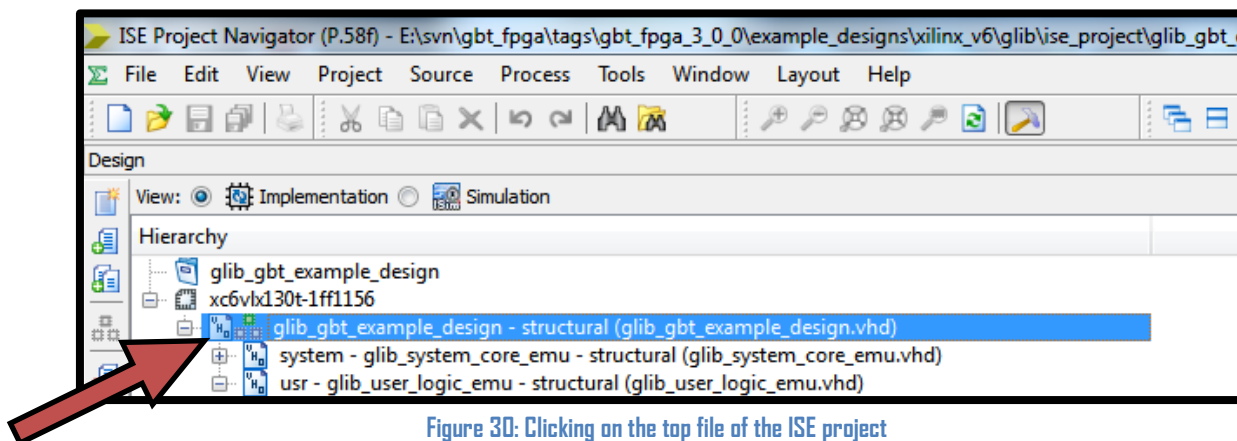

Figure 30: Clicking on the top file of the ISE project
13. By clicking on the name of the top level file of the ISE project, the "Synthesize", "Implement Design" and "Generate Program File" processes appear in the "Processes" pane of the "Design" window (see Figure 30 and Figure 31).